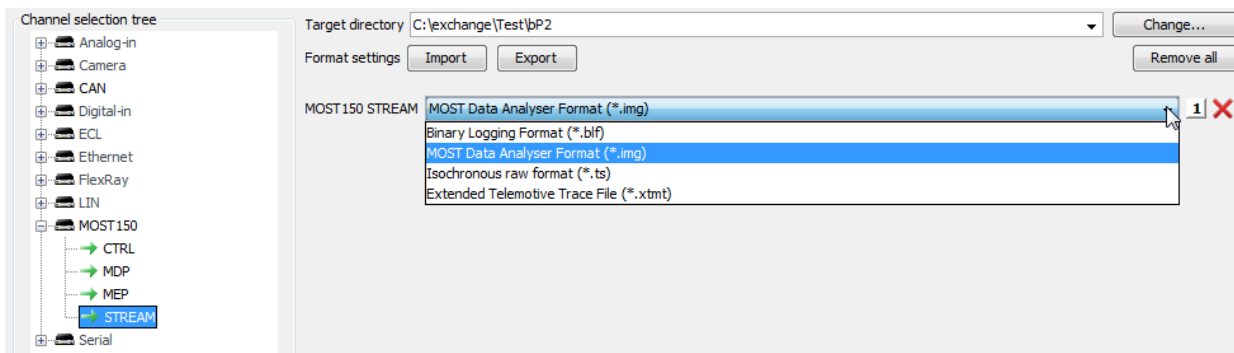

Figure 4: format selection
- Figure 4: format selection 12